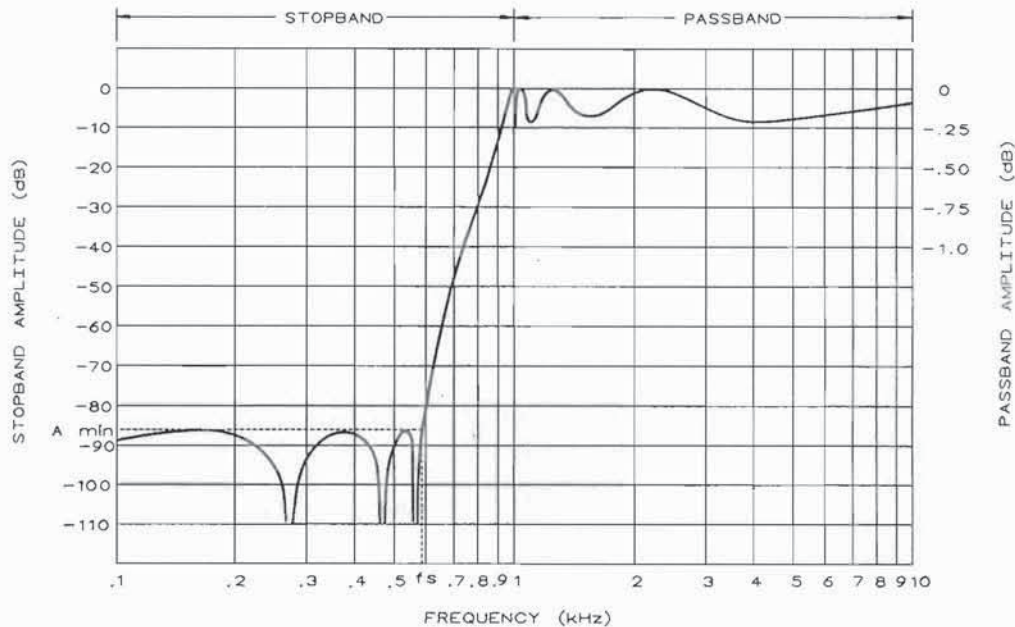

Figure 4.1 Normalized Ripple Response
4.4.1 LOW BANDS RIPPLE RESPONSE (Figure 4.1)